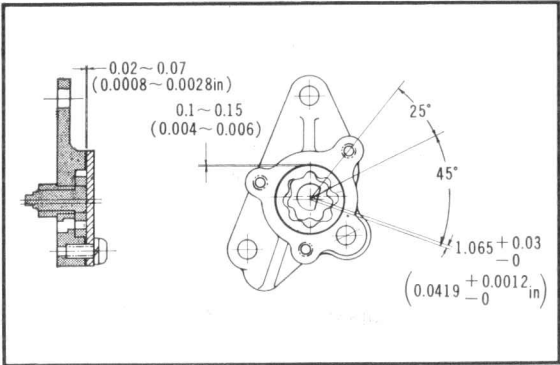

Figure 3-13. Oil pump gear clearance
- (1) Oil pump outer rotor to housing clearance (Fig. 3-13)